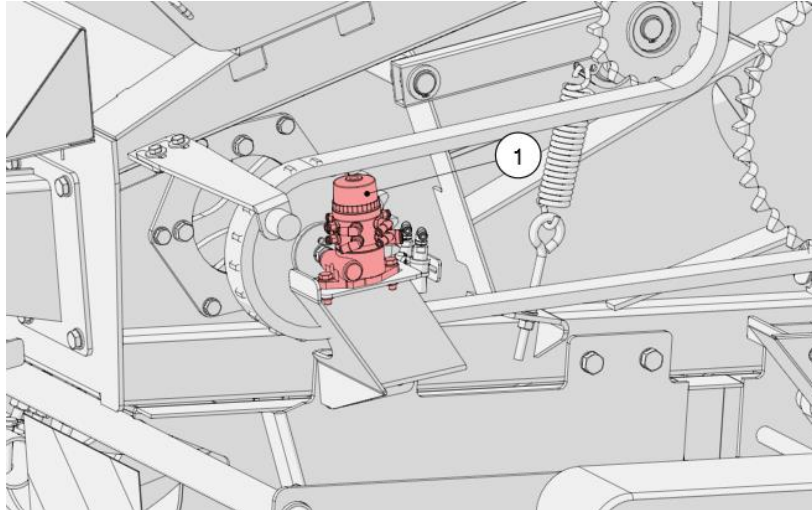

Figure 29. The pump of the automatic lubrication system for chains
- Disconnect all lines from the pump (1) (Figure 29)
- Place a container for oil under the pump (1)